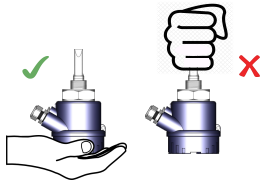

Figure 14: Instrument Handling
- When handling forks, do not lift them using their tines. Please see Figure 14.